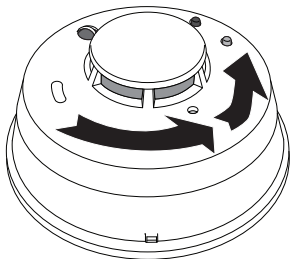

Figure 2: Remove Detector from Base
1. Grasp the detector and twist counterclockwise to remove the detector from the mounting base. See Figure 2.
1. Remove the detector cover from the mounting base. See Figure 2.